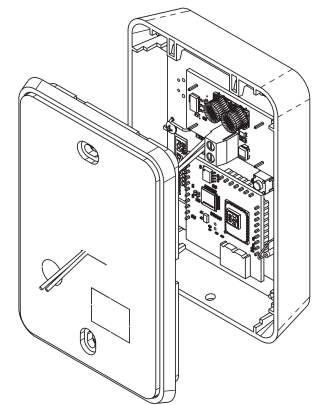

Fig. 7: Power applied to terminal block
3. **Applying Power to Wired Units:** If the unit is ordered with wired power, it will have a power terminal block near the top center of the unit. To activate the unit, apply 9 to 30 VDC (50 mA max) or 15 to 28 VAC (50 mA max) (Fig. 7). The unit will begin transmitting at approximately 5 minute intervals after power is applied. The transmission LED on the circuit board will illuminate during each transmission.